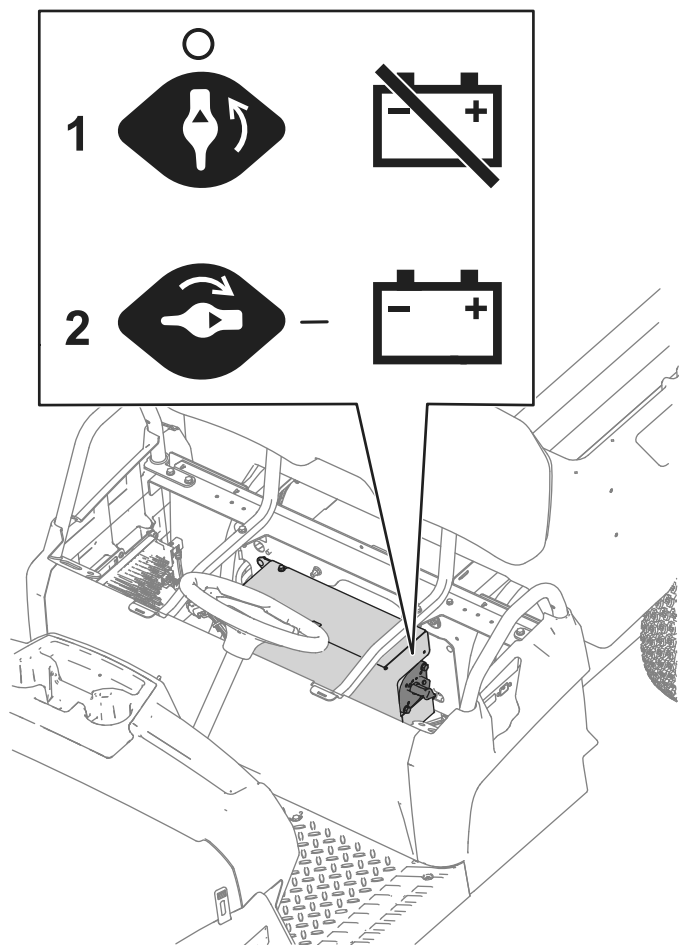

Figure 42
3. Move the battery-disconnect switch to the desired position as shown in Figure 42.